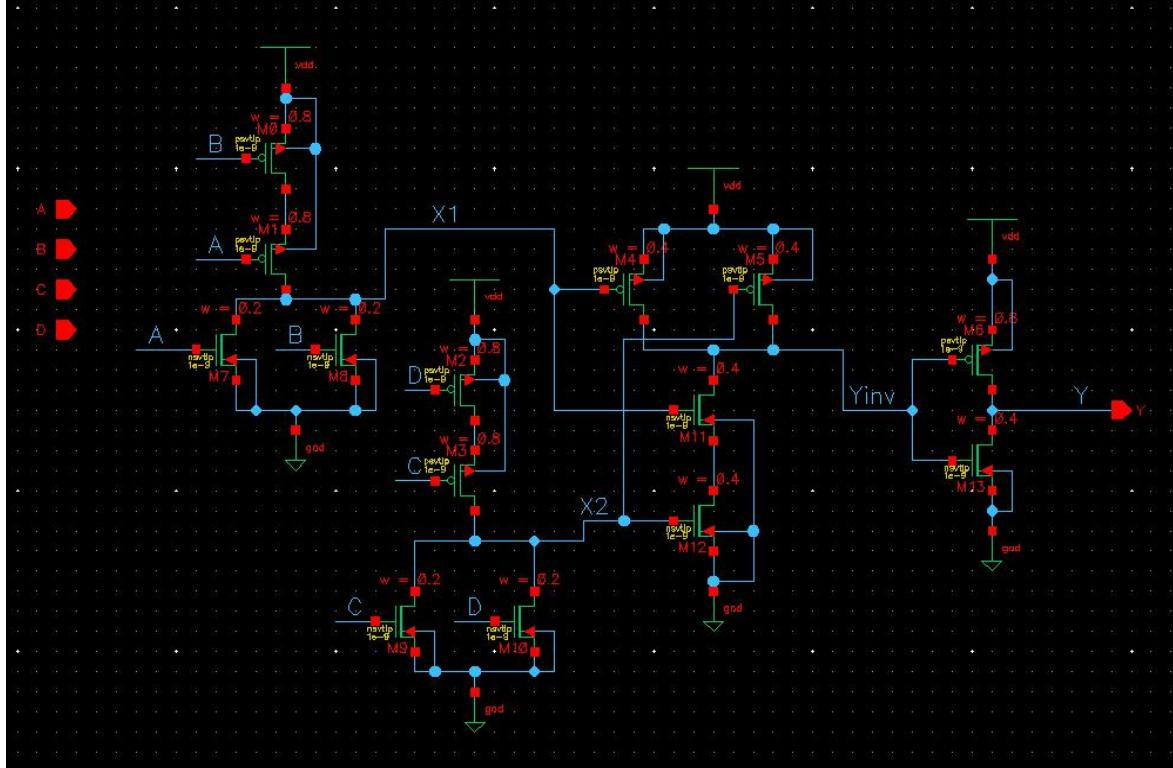

Figure 1: The schematic of a 4-input gate from the 65-nm cell library.
- Give **two** reasons for why it may be good idea to implement this logic function as shown in Figure 1 rather than the one you drew in task b). (2 p)
3. Logical effort, gate sizing Again consider the schematic shown in Figure 1 above.
- a) Derive values for the intrinsic delay, p , and the logical effort, g , for the **entire** cell, the schematic of which is shown in Figure 1, with the transistor sizes shown in the schematic. (5 p)
- b) Assume that the cell from Figure 1 is to be scaled for optimal delay when loaded with a capacitance of $28.8 C_{in}$ or $\frac{144}{5} C_{in}$ where C_{in} is the input capacitance for each of the inputs A, B, C, D in Figure 1. How should each gate be scaled? What is the resulting delay with this scaling? (5 p)
Label all nodes clearly. The layout should correspond exactly to the schematic in Figure 1. Use shared drain areas for output nodes whenever possible.